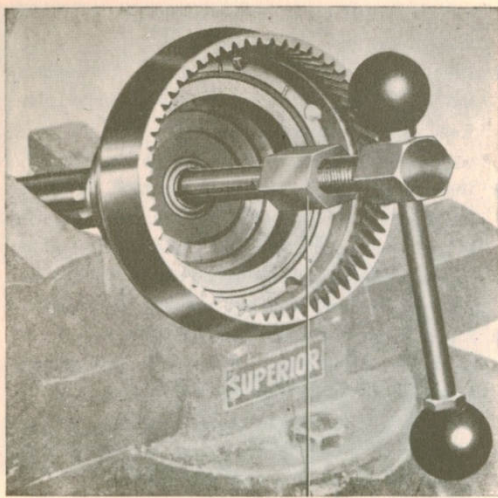

Fig. 3-49. Removing needle bearing, output shaft
6. Unscrew the bolt and pull out the bushing and small speedometer gear wheel. Unscrew the nut for the coupling (24). Pull off the coupling with puller SVO 2262. Place the housing in a press and press out the output shaft (23).
7. Remove the brass washer (35) which holds the free wheel on the output shaft. Lift out the free wheel parts. Remove the thrust washer (32). If necessary, pull out the needle bearing (31) in the output shaft with tool SVO 2423, see Fig. 3-49. Pull off the bearing on the output shaft preferably using a knife puller.